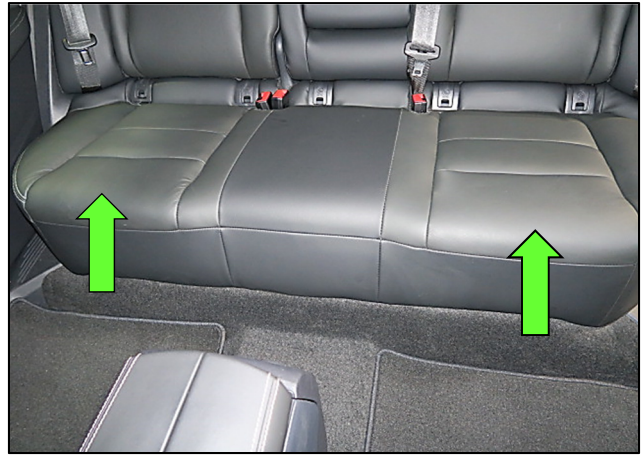

Figure 2
2. Lift upward on the seat cushion assembly, in the areas shown in Figure 2, to disengage the seat cushion hooks.